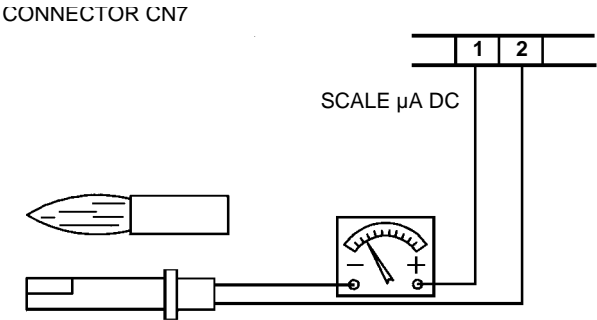

Fig. 30
- Inspect and thoroughly clean the flame detection photoresistor and replace if necessary. In case of doubt, check the detection current after first starting the burner by following the procedure shown on Fig. 30;